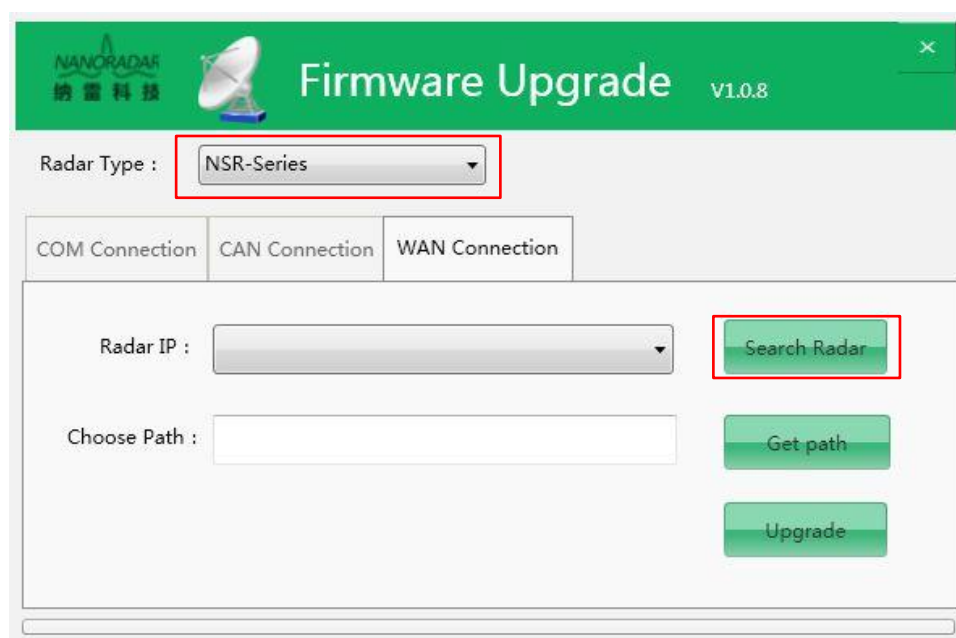

Figure 25 Select radar type
a) Select the upgrade radar for example NSR100W, as figure 25. The radar is upgraded via WAN connection mode, click "Search Radar" button.